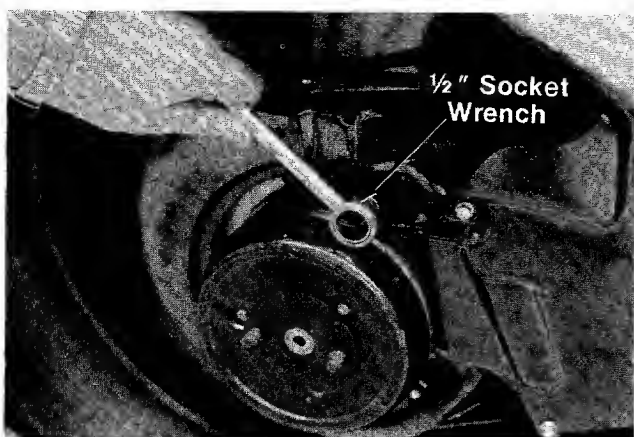

FIGURE 30.
9. Support the engine with one hand. Remove the three self-tapping screws which secure the deck and blade brake/clutch to the engine. A 1/2" socket wrench is required. See figure 30.